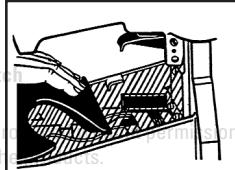

FIG 1
A. Open the magazine: Press cover slightly to unlatch from magazine and swing cover open (Fig 1).